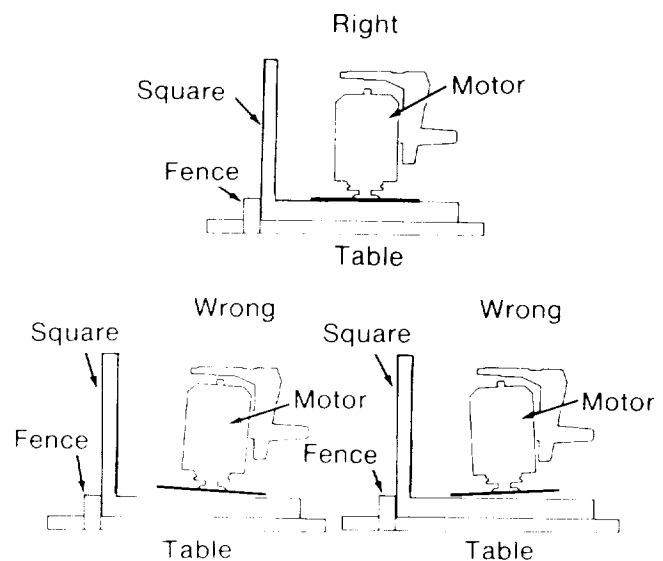

Fig. 75
8. If the square is flush with the *blade* after each rotation (Figure 75) go to step 18, or
If there is a gap between the square and the *blade* after any rotation (Figure 75) go to step 9.